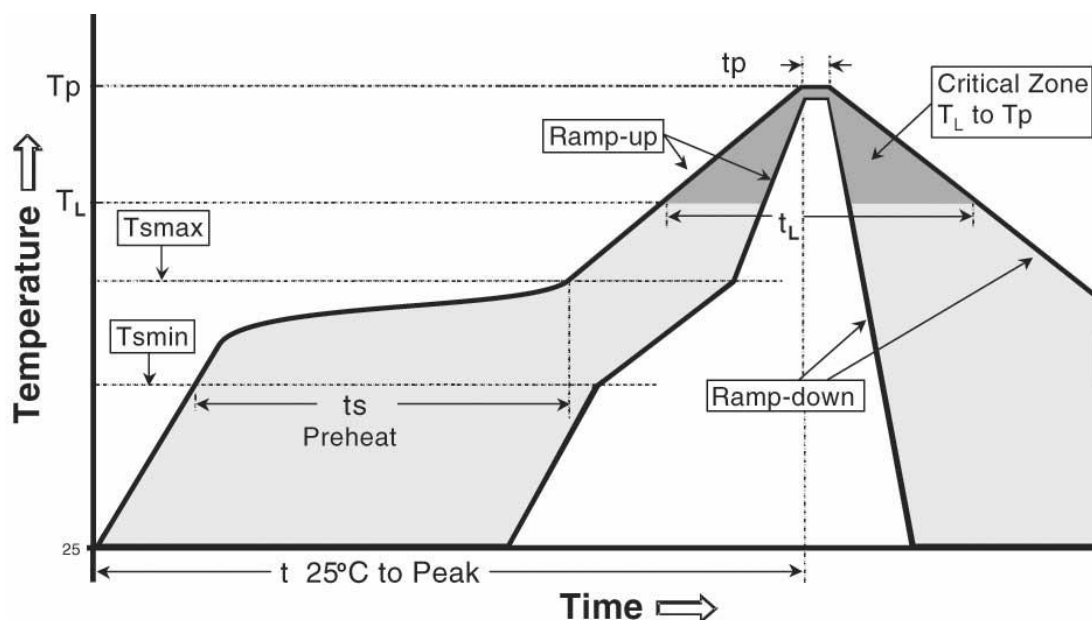

Figure 9 – Temperature profile.
2. Perform a reflow process according to the temperature profile detailed in Figure 9, Table 7.